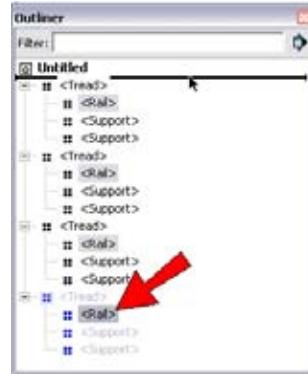

Figure 7-104
9. What if you want the rail to appear only at the top of the staircase, and not on each tread? In Figure 7-104, the top tread is the last one listed in the Outliner list. Within the Outliner, drag the rail from this tread and move it just under the filename.